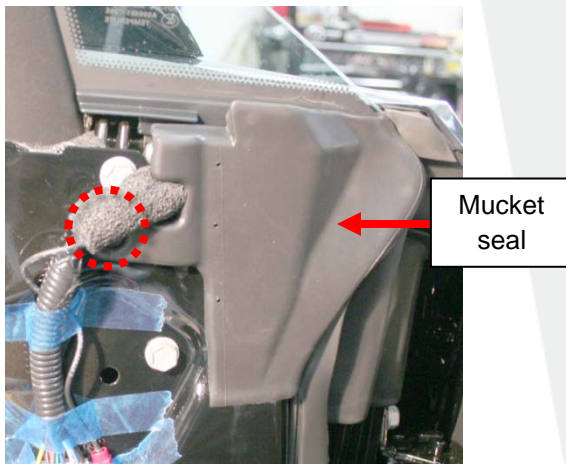
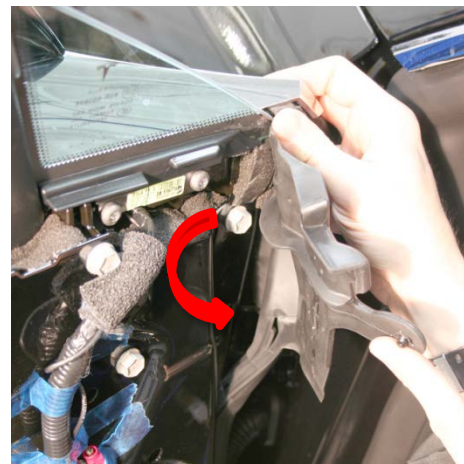

Figure 3
Figure 4
2. Release the plastic pus pin that secures the mucket seal (Figure 3) then gently pull it out of the way (Figure 4).